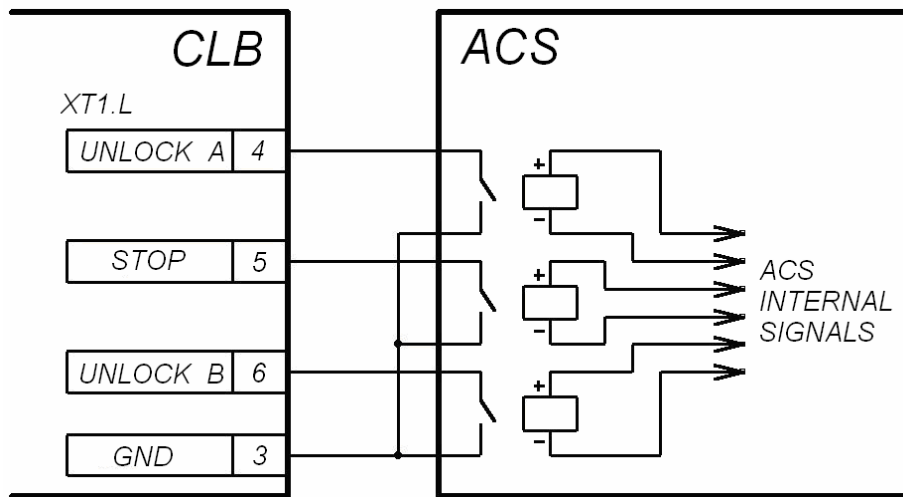
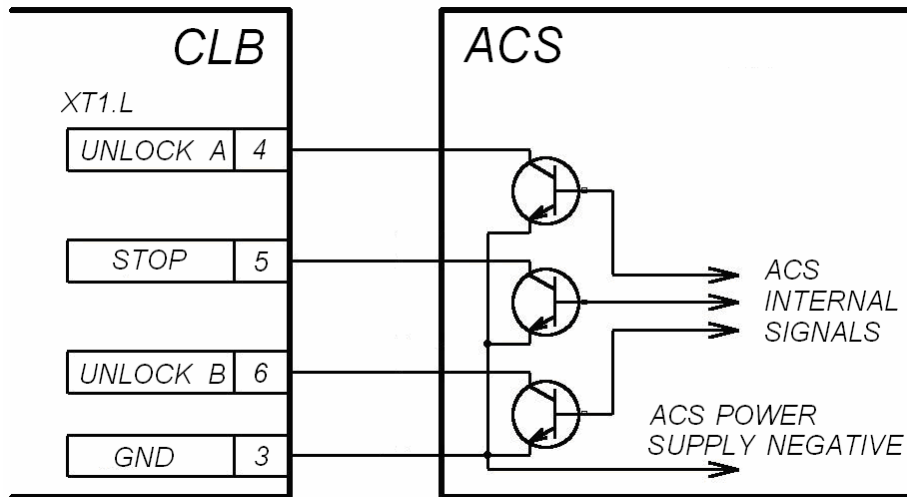

Fig. 4 ACS control element — normally open relay contact
Fig. 5 ACS control element — circuit with open-collector output
5.4.2 The turnstile is operated by input of a low-level signal to the “*XT1.L*” connector block contacts “*Unlock A*”, “*Unlock B*” and “*Stop*” relatively to the “*GND*” contact. As the control element there can be used a normally open relay contact or a circuit with open collector output at that. At the emergency the turnstile control is carried out by removing of a low-level signal from the “*Fire Alarm*” contact relatively to the “*GND*” contact. As the control element there can be used a normally closed relay contact or a circuit with open collector output at that (Fig. 4 and Fig. 5).